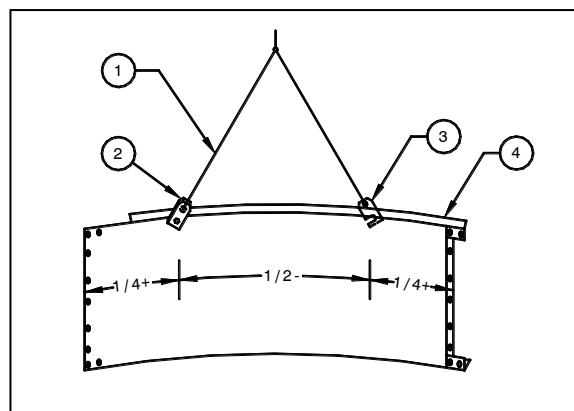

Figure 2.14a - Lifting Rigid Sections
- a. Mount lifting lugs (not by Ovivo) or equivalent, to the predrilled holes located just below the rim angle at approximately $\frac{1}{4}$ + the total length of the feedwell section from each end of the section. Refer to Figure 2.14a. If lifting lugs are not used, attach the lifting cables or chains with lifting clamps to the feedwell section at the rim angle at this same distance ($\frac{1}{4}$ +) from each end of the feedwell section.